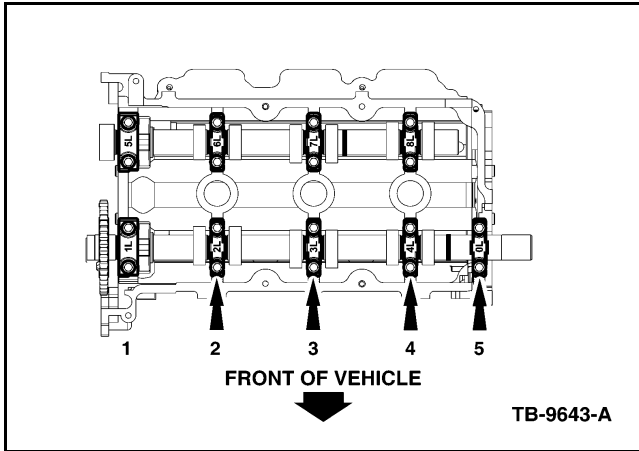

Figure 2 - Article 09-17-8
- b. On the LH exhaust camshaft only, starting at the front of the engine with the thrust bearing cap (1L), perform the following on all 5 camshaft bearing caps: (Figure 2)